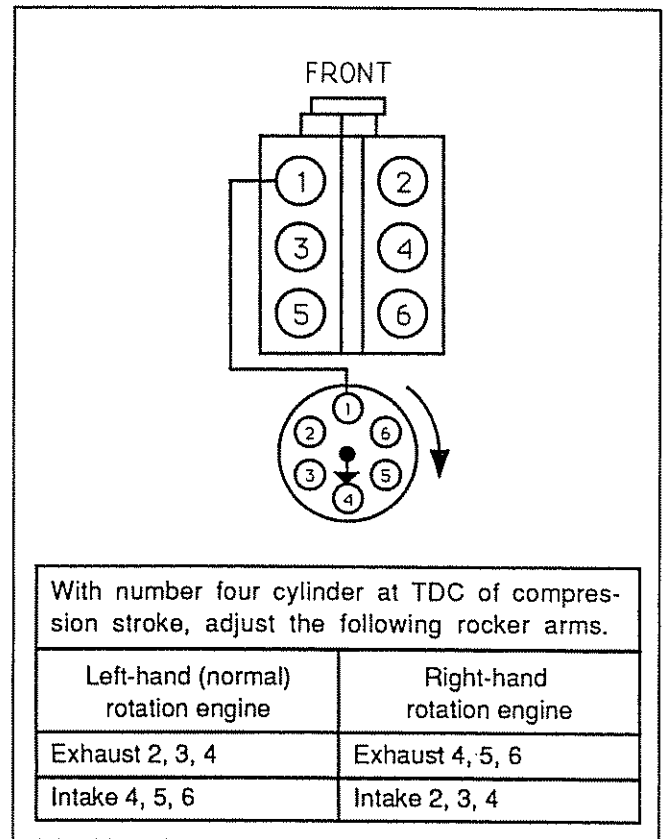

Figure 8-30. *Adjusting Rocker Arms With No. 4 Piston At TDC Of Compression Stroke*
5. Crank engine one revolution until "TDC" pointer mark and torsional damper mark are again in alignment. This is No. 4 firing position. With engine in this position, the following valves may be adjusted (see Figure 8-30).